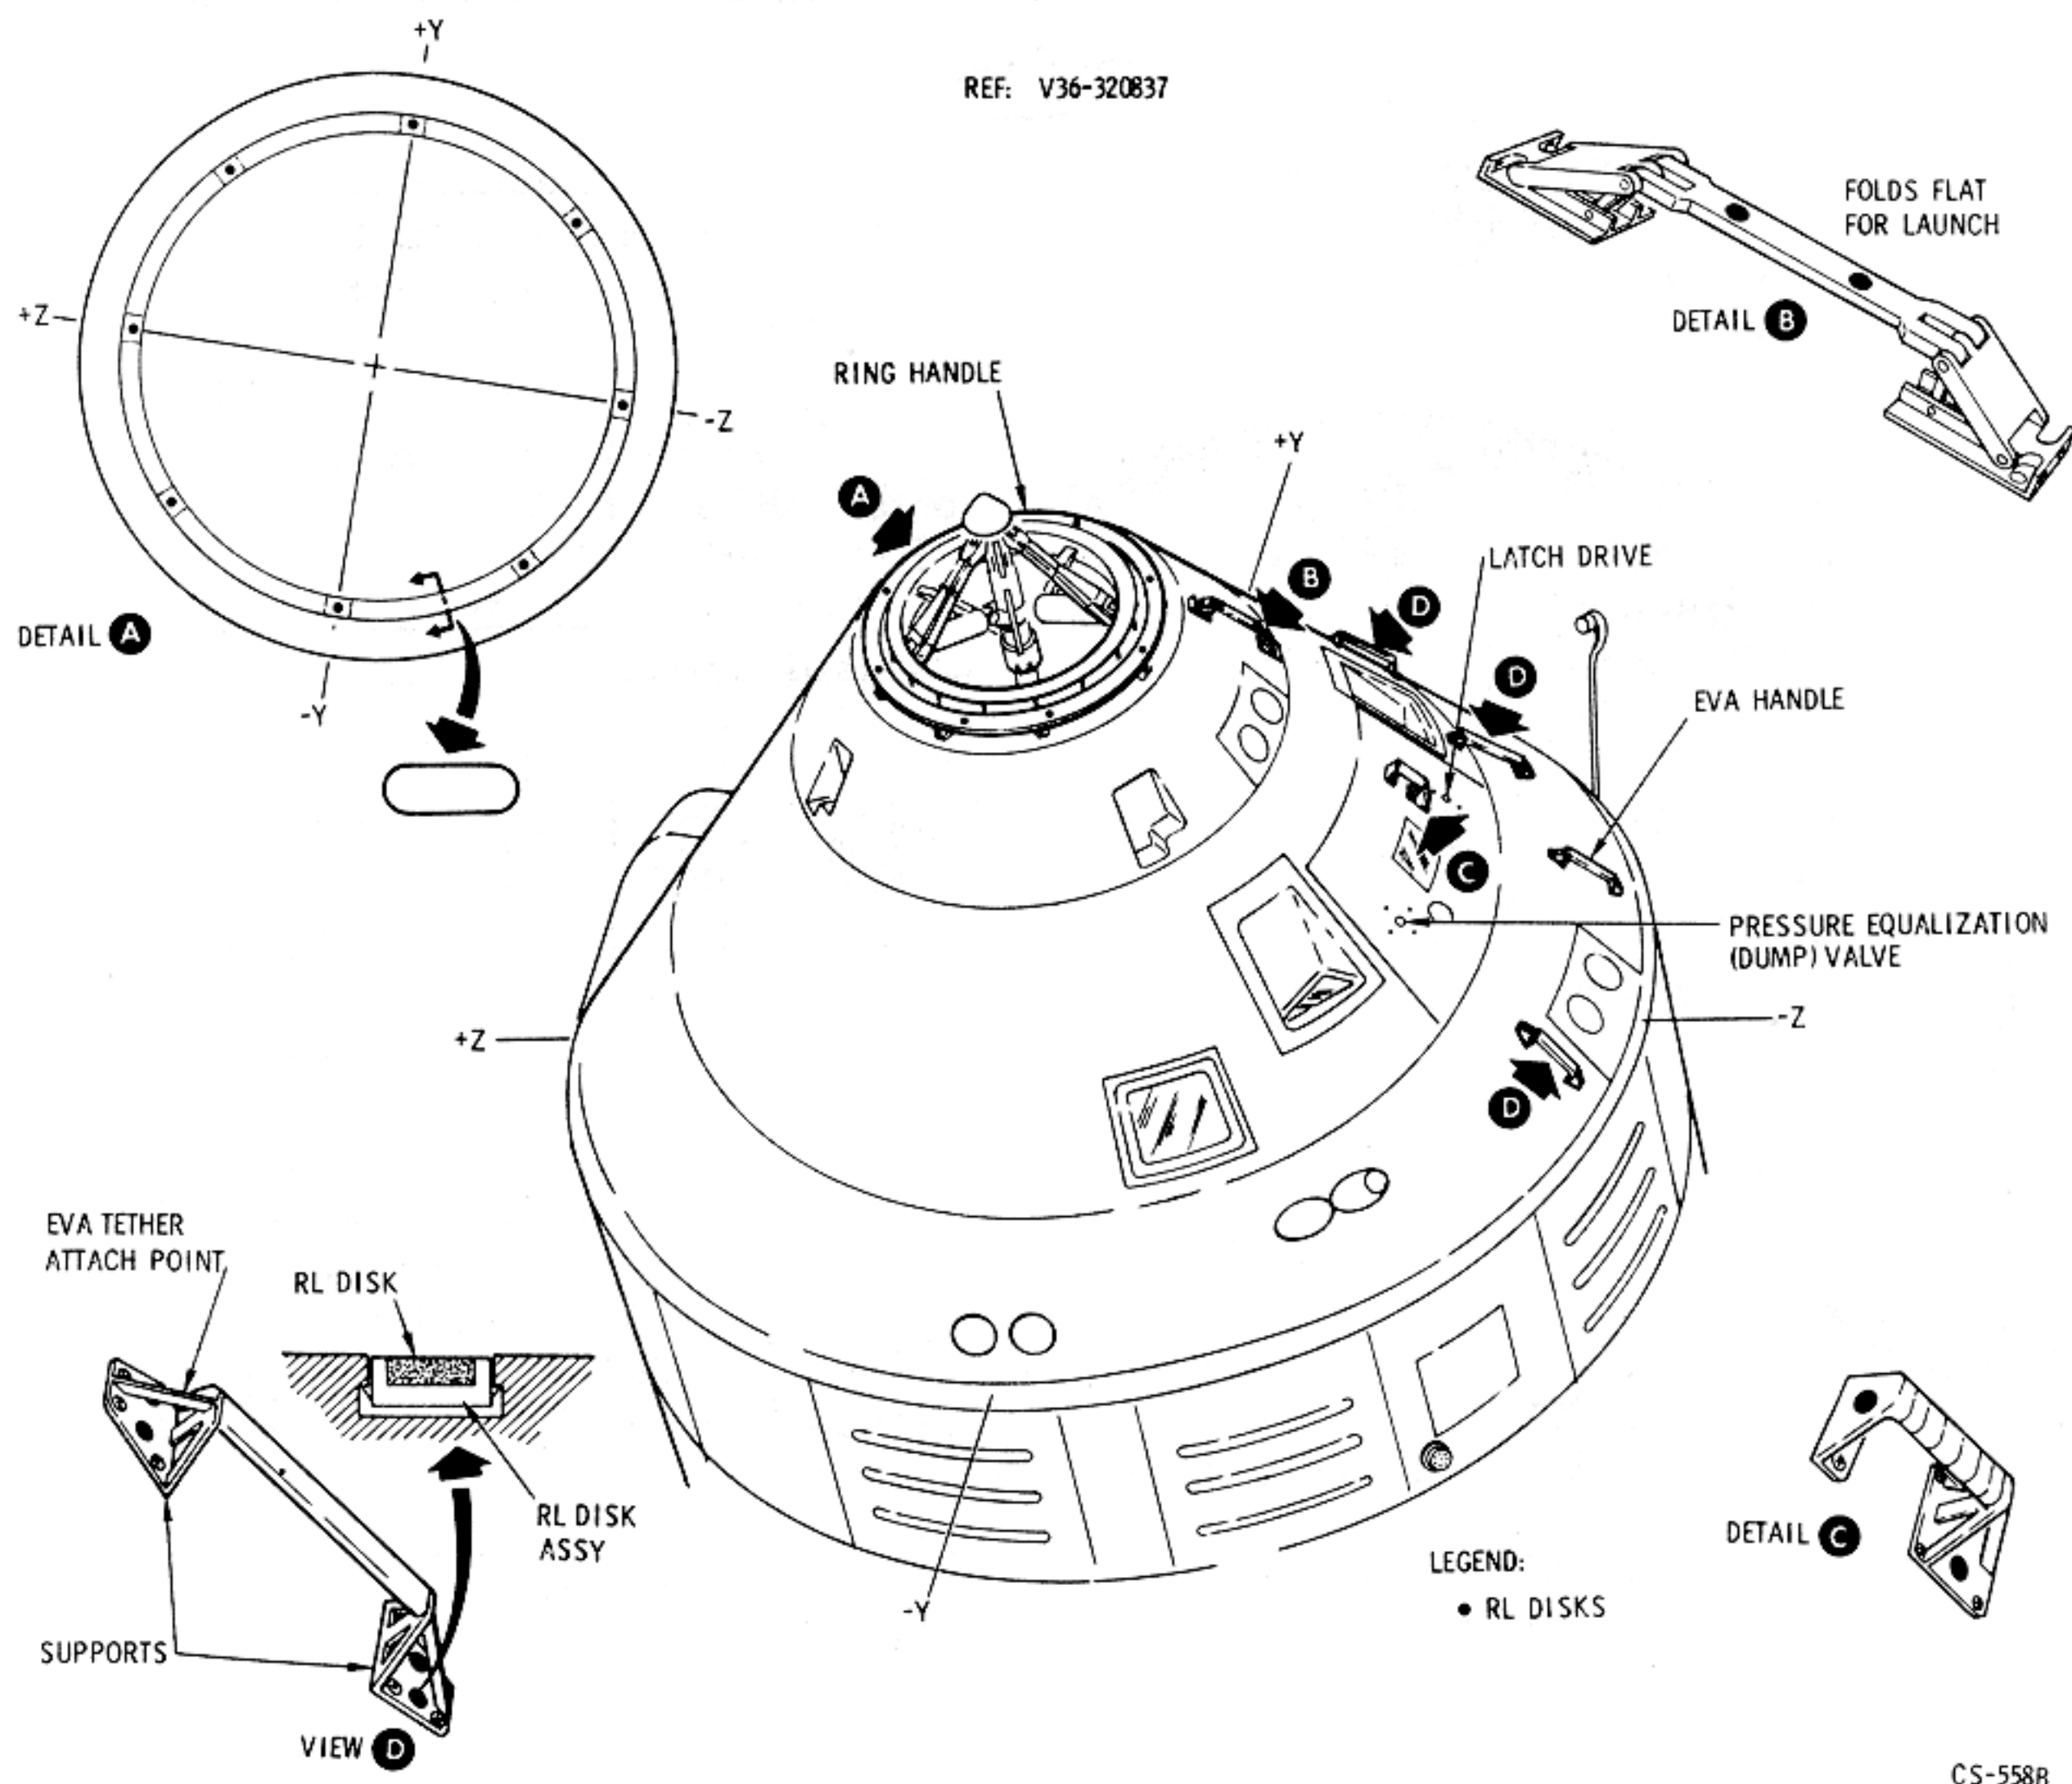

Figure 2.12-27. EVA Handles With RL Disks
2.12.4.2.3 EVA Handles With RL Disks (Figure 2.12-27).